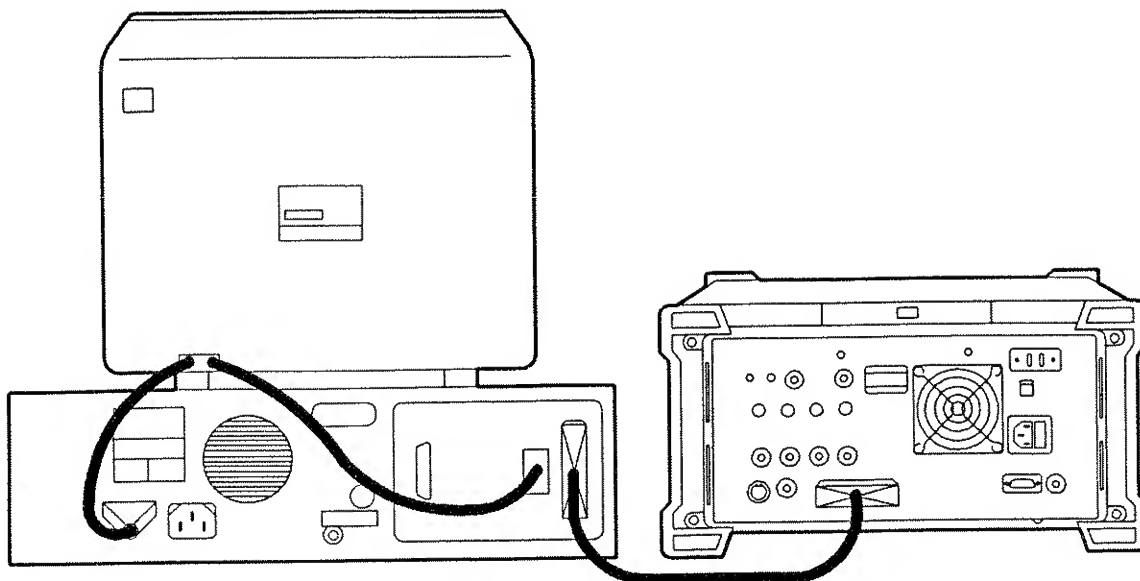

Figure 1-5. Connecting an IBM PC/AT Compatible Computer to the Analyzer
1. Connect the analyzer to the computer with the RS-232 cable. (See Figure 1-5.) The analyzer uses a female RS-232 connector; the IBM PC/AT computer usually uses a male RS-232 connector. Some compatibles use a female RS-232 connector.